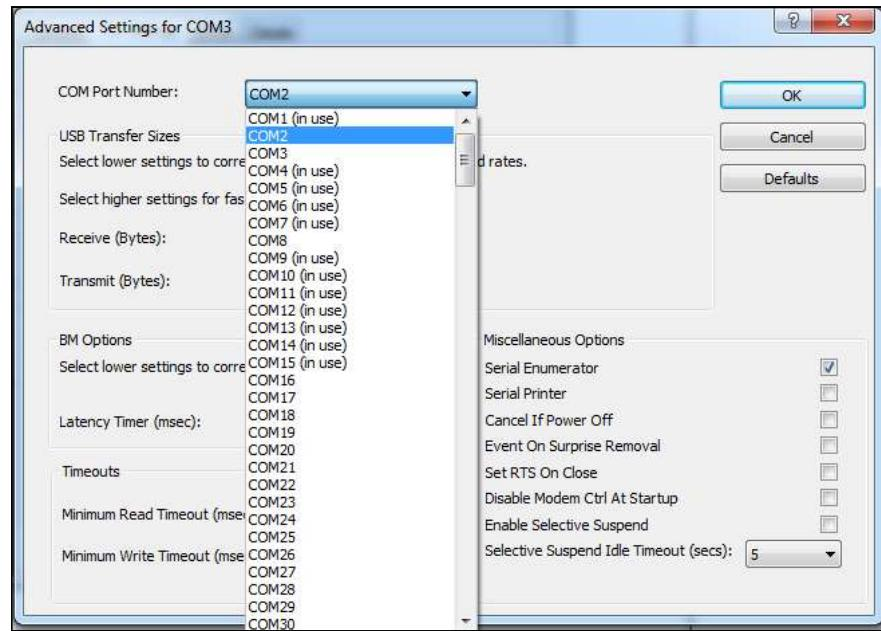

Figure 3.26: Selecting COM2
1. Select COM2 and press OK as shown in Figure 3.26.